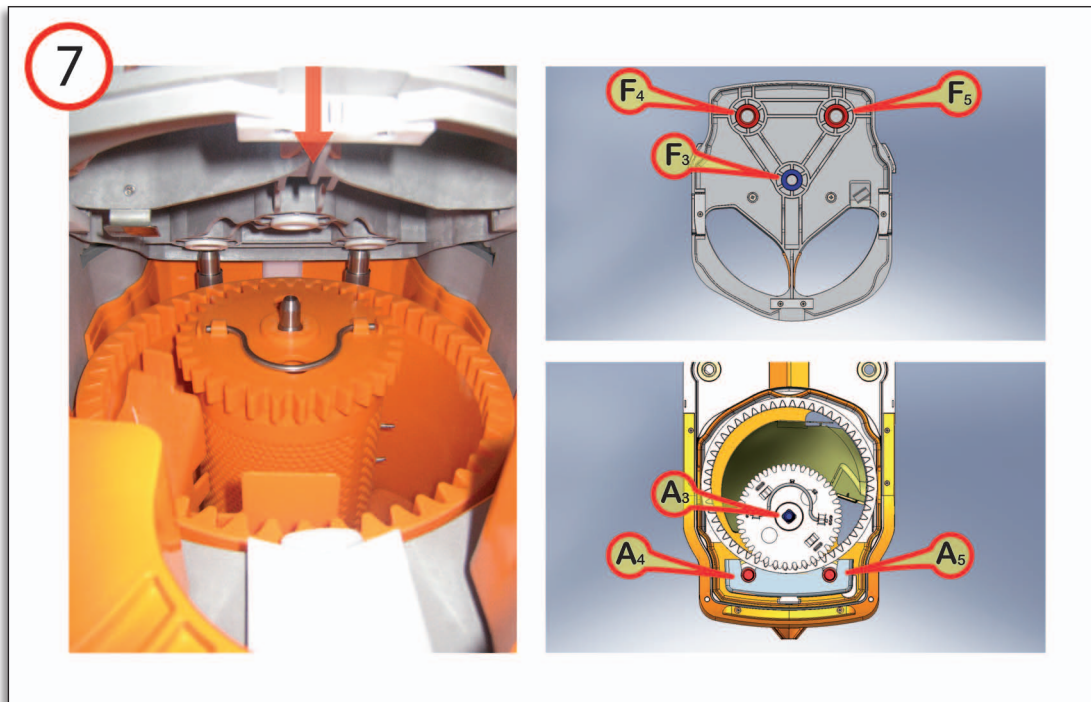

Figure 3.1.20 - Knife cover insertion
- 6 • **Small cylinder insertion** - Insert the small cylinder as shown in figure 3.1.20. After the insertion make sure that the top square hole of the cylinder is completely tight fit with the corresponding part of the pole. Make sure that that the gear of the two cylinders are perfectly aligned.